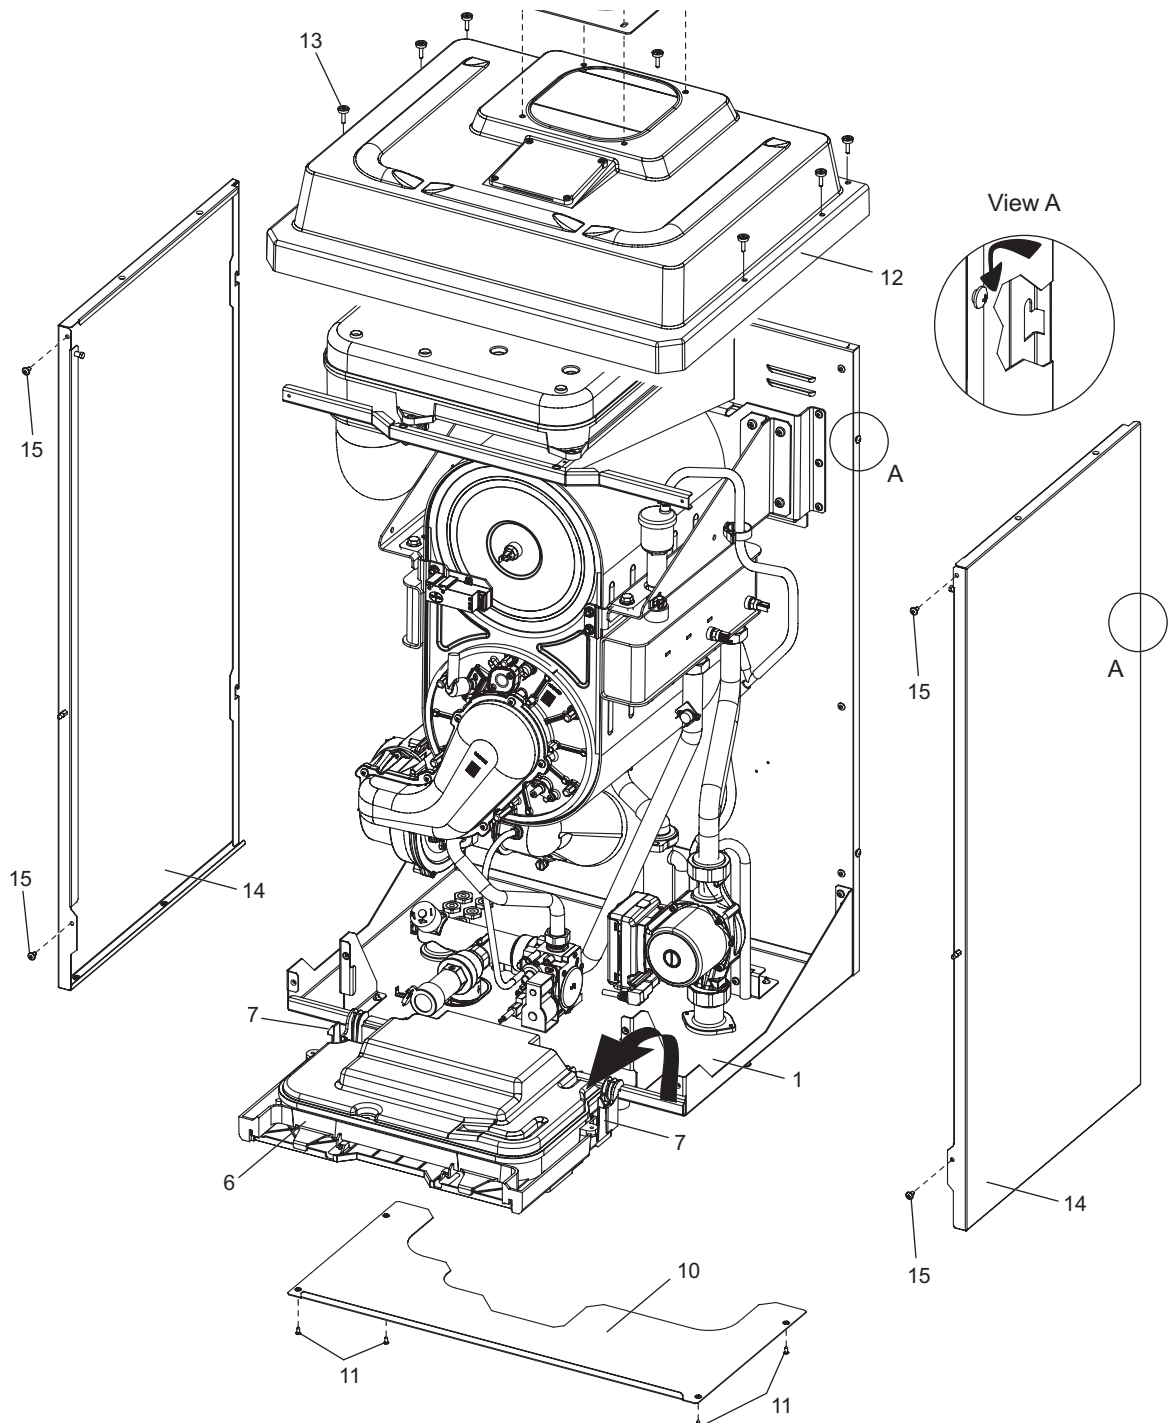

Fig. 6.1 (Pro Tec Plus 50 shown)
Remove the two screws (15) securing the side panel (14). Lift the side panel and pull it forwards unhooking it from the rear panel (view 'A' in Fig. 6.1) Lower the panel out and away from the top cover.